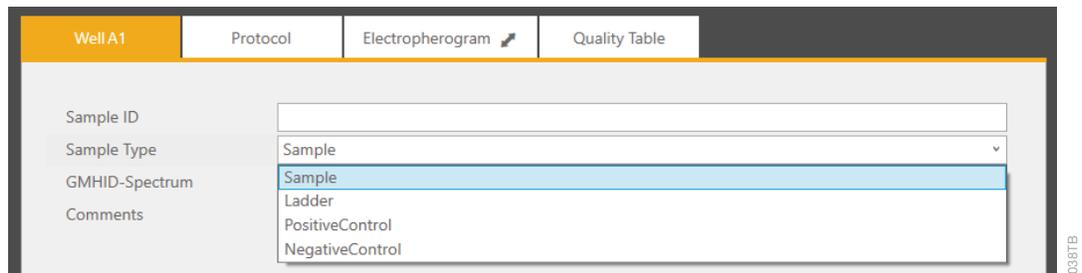

Figure 11. Drop-down options for sample type.
5. Select sample types for each sample or group of samples on the plate. Select the sample(s) then use the drop-down menu (Figure 11) to designate the well(s) as Sample, Ladder, Positive Control or Negative Control. These designations will be included in the output file for downstream analysis.